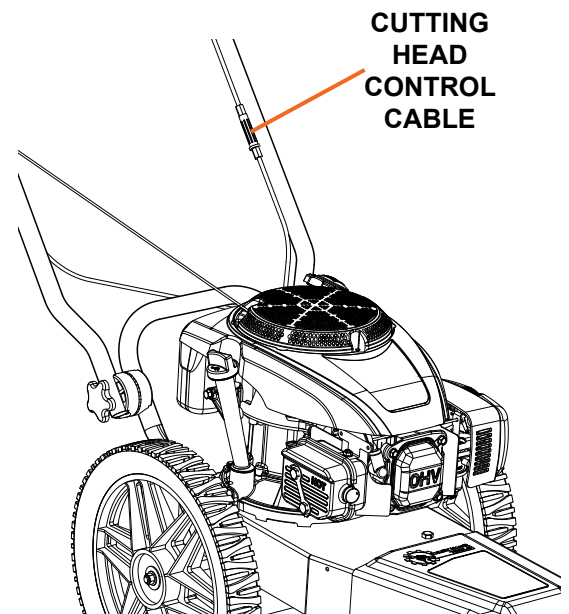

Figure 16
1. Locate the cutting head cable along the left handlebar. There is an in-line adjuster to change the tension on the cable (see Figure 16).
8. Install the small spacer and flat idler pulley (see Figure 16). Make sure you place the belt correctly between the idler pulley, bracket tab, and guide pin.